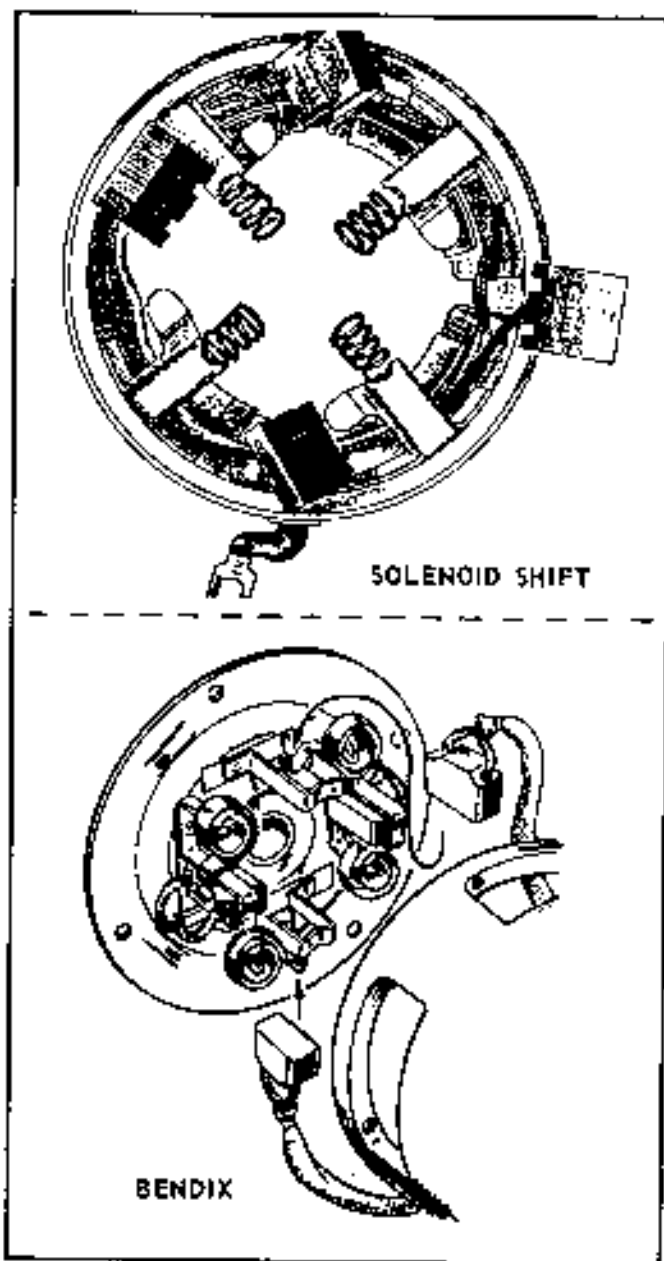

FIGURE 18-13. BRUSHES
- 7 Remove the brushes from the brushholder and inspect them. Replace brushes that are worn to one half of their original size. Remove the brush springs from the holder and examine them. Replace brush springs that appear abnormally weak (Figure 18-13).